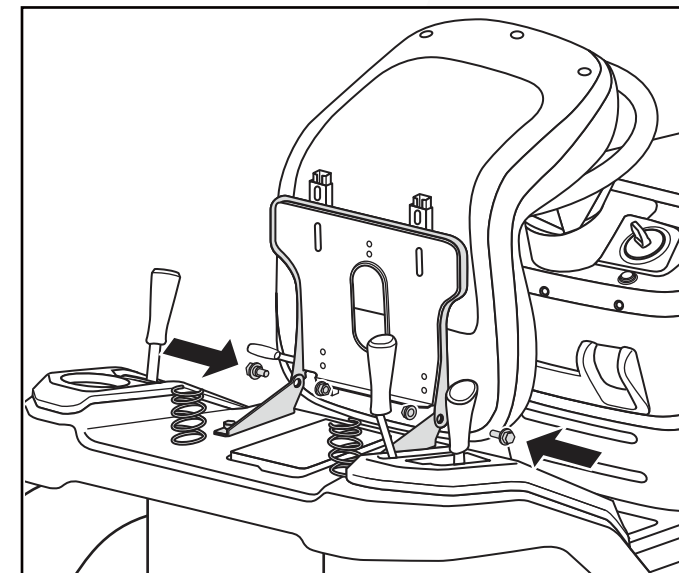

Fig. 6
1. Connect the seat to the mower base with bolts and nuts provided.(Fig. 6)